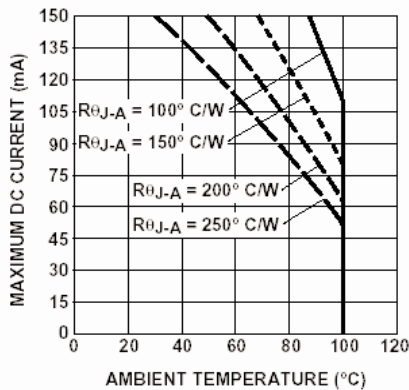

Figure 3a. Maximum DC Forward Current vs. Ambient Temperature.
2. Derate linearly as shown in Figure 3a.